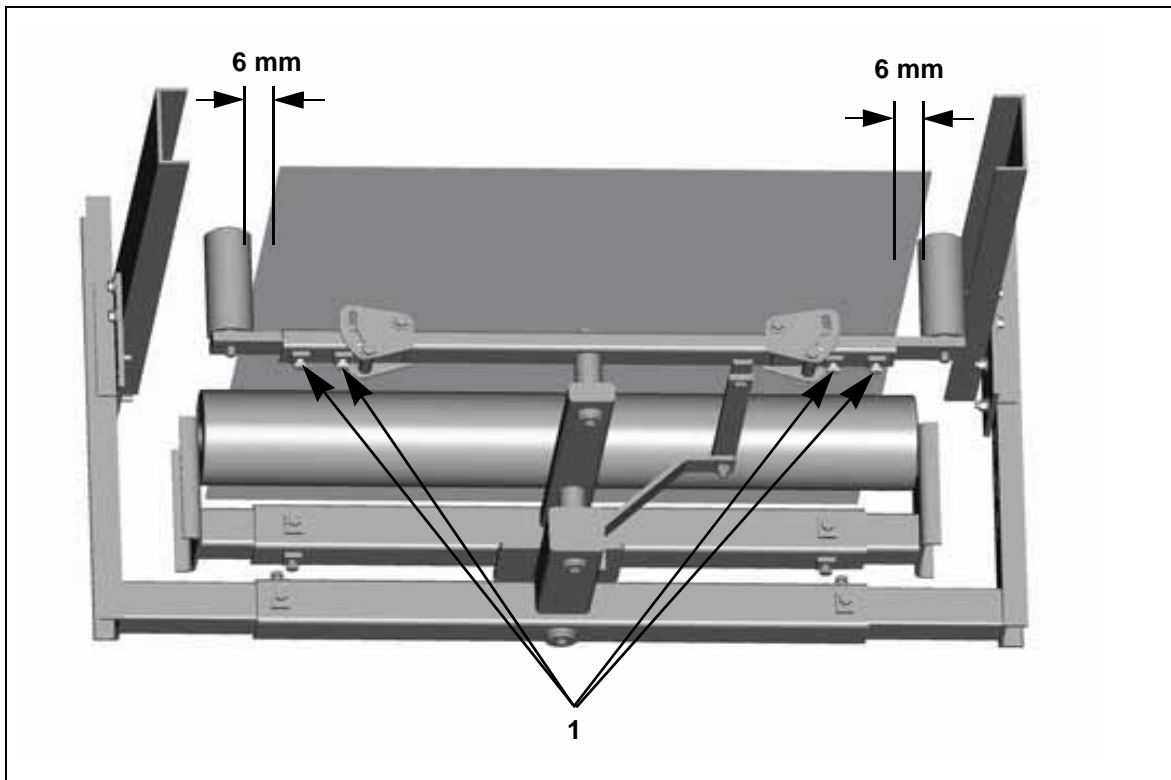

Fig. 13: Installing and securing the sensor roller unit
15. Install the sensor roller unit about 6 mm away from the edge of the conveyor belt. Secure the sensor roller unit with the arresting screws (1, Fig. 13).